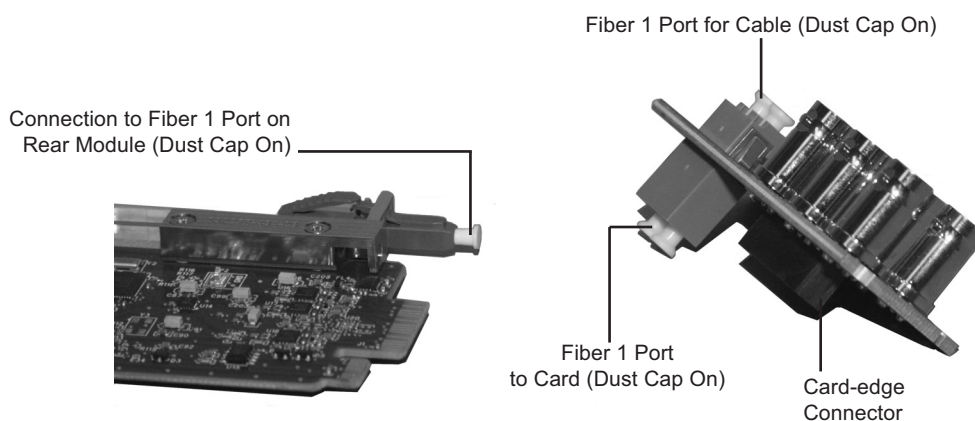
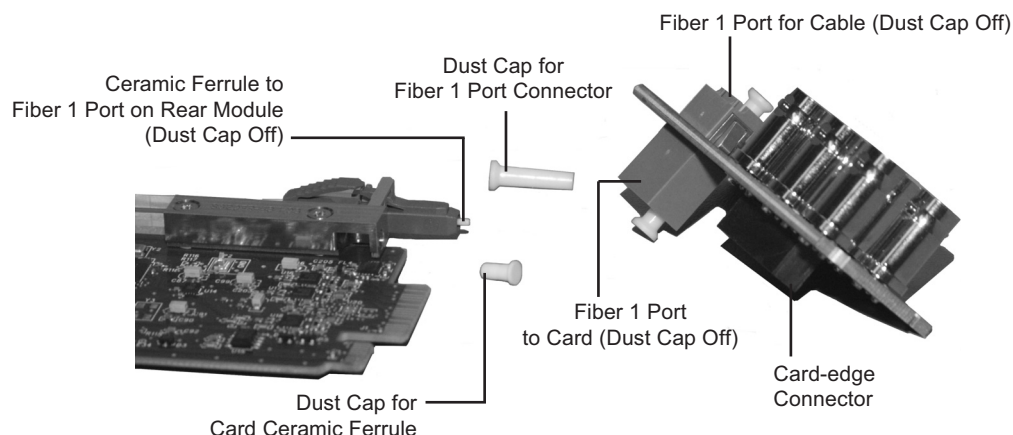

Figure 2.1 Card Connectors with Dust Caps Installed — MUX-6258-A
Figure 2.2 Card Connectors with Dust Caps Removed — MUX-6258-A
- Connectors must always be inserted into a device or have a dust cap on. Refer to **Figure 2.1** for dust cap locations.
3. Remove the dust caps from the Fiber ports on the rear module that face the interior of the frame. Refer to **Figure 2.1** and **Figure 2.2** for dust cap locations.
- Refer to **Figure 2.1** and **Figure 2.2** for dust cap locations.